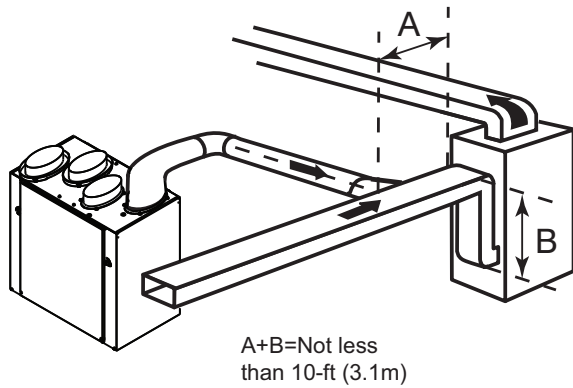

Fig. 12 - Return side connection
- Connect this opening to the **Fresh air distribution** port of the unit (see Fig. 12).